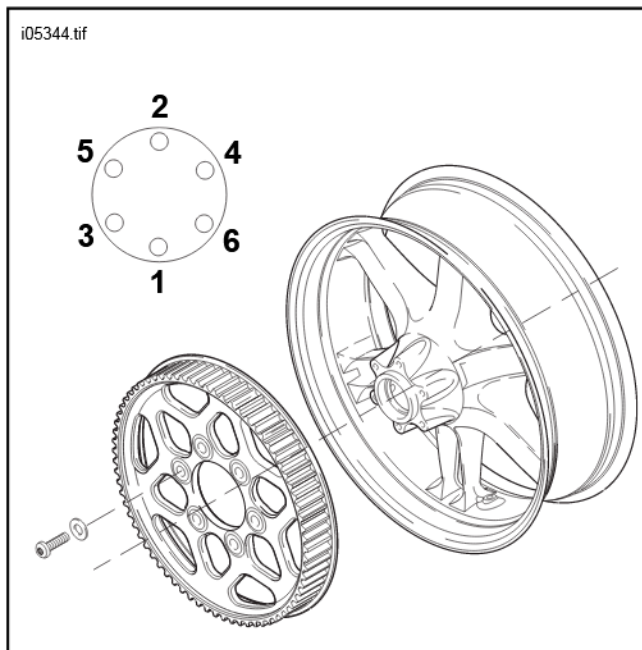

Figure 1. Tightening Sequence
4. See Figure 1. Tighten screws to 45 ft-lbs (61 Nm) using the tightening sequence shown.